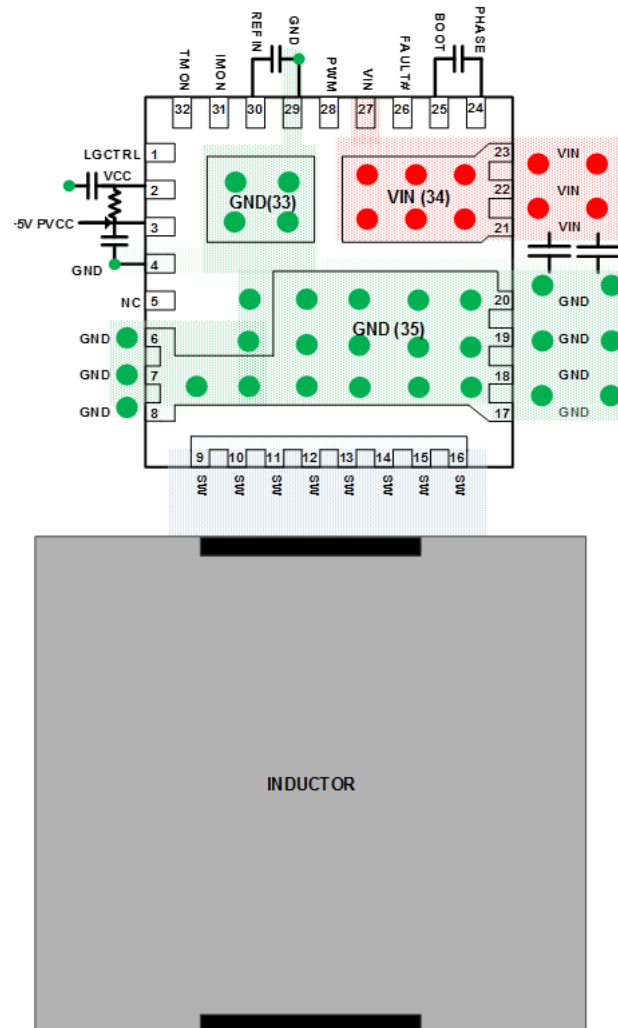
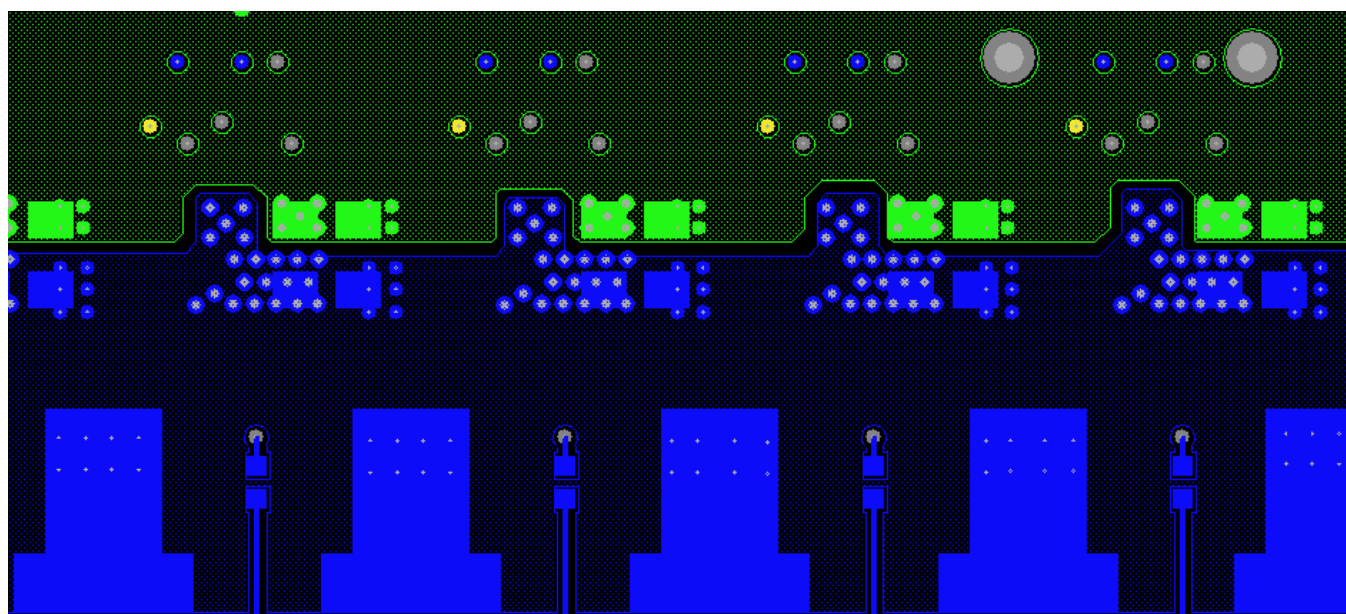

FIGURE 15. SINGLE-PHASE PCB LAYOUT FOR MINIMIZING CURRENT LOOPS
FIGURE 17. MULTIPHASE PCB LAYOUT EXAMPLE BOTTOM LAYER
- Place multiple 10μF or greater ceramic capacitors directly on the device between VIN and GND as indicated in Figure 15 on page 14. This is the most critical decoupling and will reduce parasitic inductance in the power switching loop. This will reduce overall electrical stress on the device as well as reduce coupling to other circuits. Best practice is to place the decoupling capacitors on the same PCB side as the device. For a design with tight space requirements, these decoupling capacitors can be placed under the device, that is, bottom layer, as shown in Figure 17 on page 15.
- Place PVCC, VCC, and BOOT-PHASE decoupling capacitors at the IC pins as shown in Figure 15 on page 14.
- The IMON and IREF network and their vias should not sit on the top of the VIN plane. A keep out area is recommended, as shown in Figure 17 on page 15.